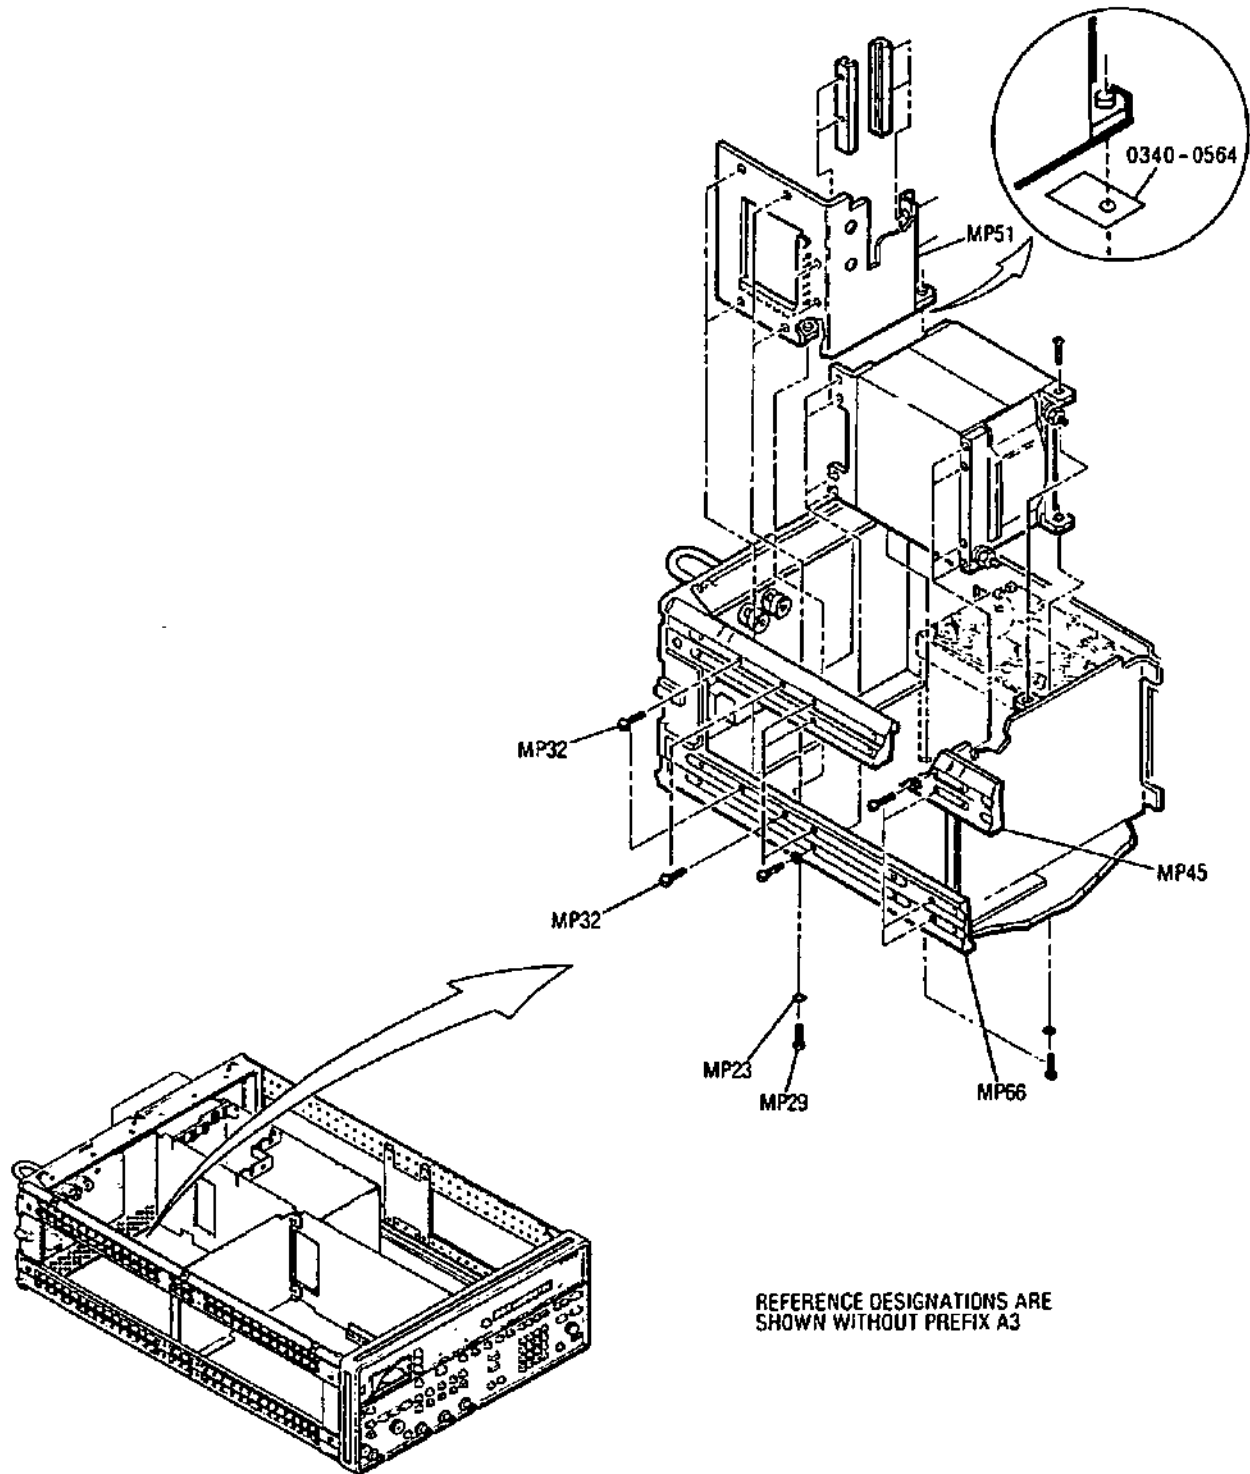

Figure 2. A3 Power Supply Parts Identification
5. Refer to Figure 2 for the following steps.